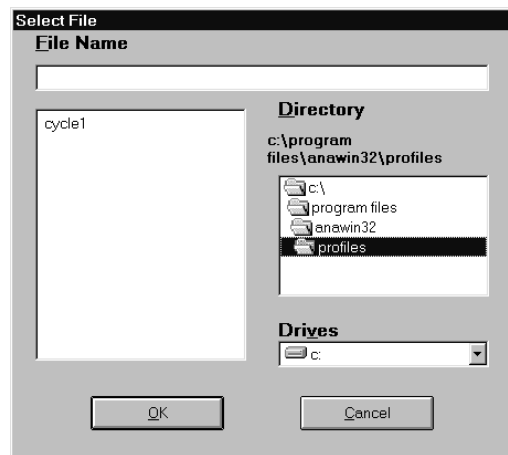

FIGURE 5-12 Select File Window
If the *Profile Name* button is blank, clicking the column displays the Select File window, shown in Figure 5-12. Use this window to assign a profile to the loop.
1. Click *Edit/View Profile* to display the Select File window, shown earlier in Figure 5-12, from which you can select a profile to edit or view.